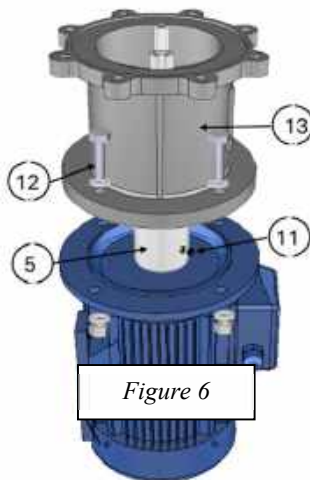

Figure 6
4- After performing these operations, you can remove the screws (12) between the lantern and the motor (Figure 6). The shaft of the HCO series pump is coupled directly to the motor, and locked by an Allen grub screw (11)